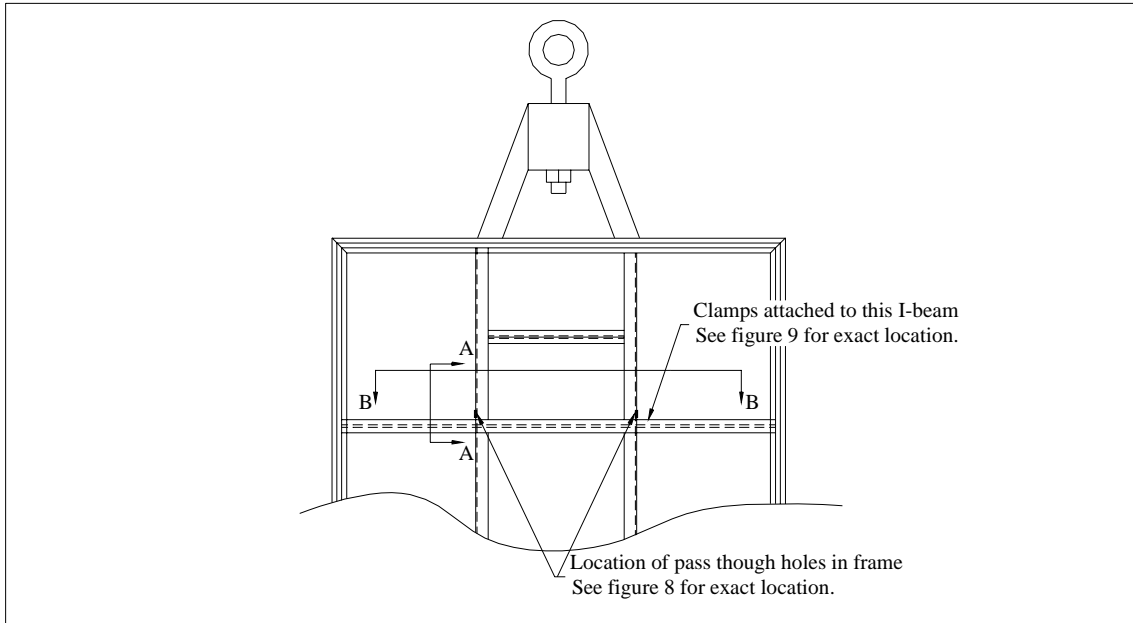
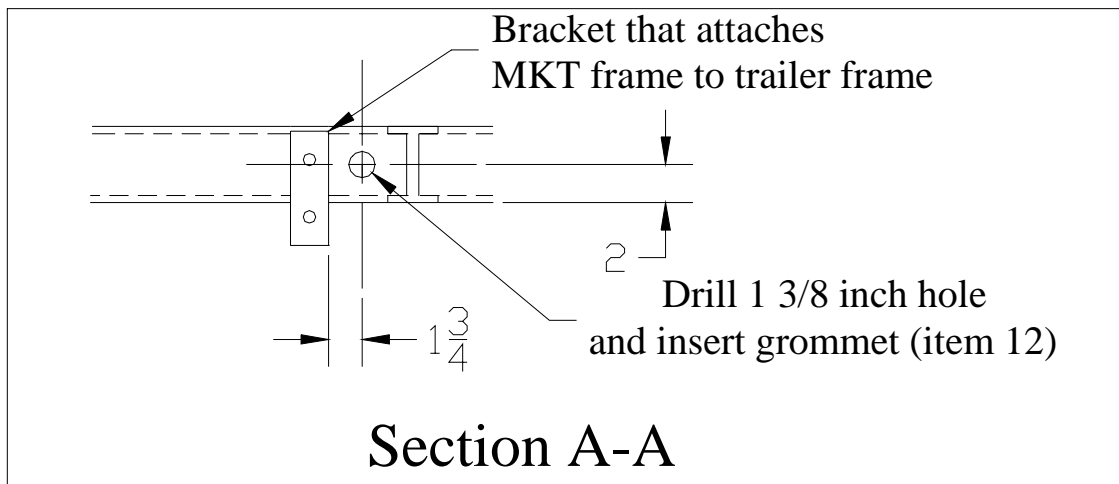
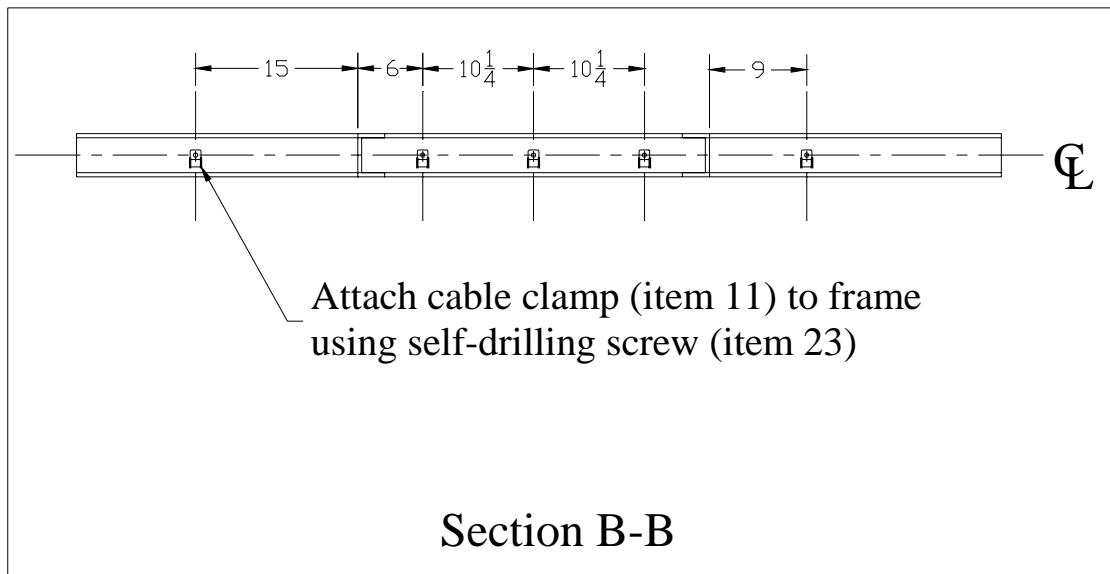

Figure 7. Location of holes and cable clamps in MKT frame.
Figure 8. Location of pass-through hole in MKT frame.
Figure 9. Location of cable clamp on the MKT platform frame.
1) Locate and drill two, 1-3/8 in. holes through the channel sections of the MKT platform frame and insert one grommet (Item 12) into the hole. See Figure 7 and Figure 8 for hole locations. The frame can only be accessed from underneath the front of the MKT trailer. These frame members are 3/8 inch thick aluminum channel sections. They sit directly on top of the trailer frame. **DO NOT DRILL THROUGH THE TRAILER FRAME.**
before install the screws. Position them according to Figure 7 and Figure 9 (section B-B).